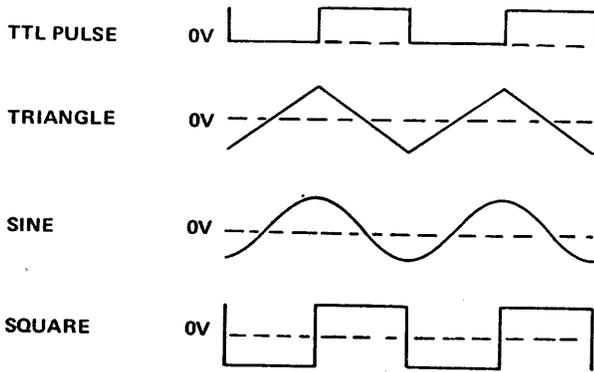

Figure 3-2. Output Waveforms
counterclockwise, negative. When OFF, the waveform is balanced around signal ground (figure 3-2).
⑨ **TTL PULSE OUT Connector**
A fixed amplitude Transistor-Transistor Logic (TTL) square pulse train of the output frequency is provided at the PULSE OUT (TTL) connector. (TTL levels are 0V to 0.4V for a logic low and 2.4V to 5V for a logic high.) The output can drive up to 20 TTL loads. The pulse train can also be used as a synchronizing reference for the main output ⑦. Phase of the waveforms relative to the TTL pulse is shown in figure 3-2.
⑩ **SWEEP WIDTH/OFF**